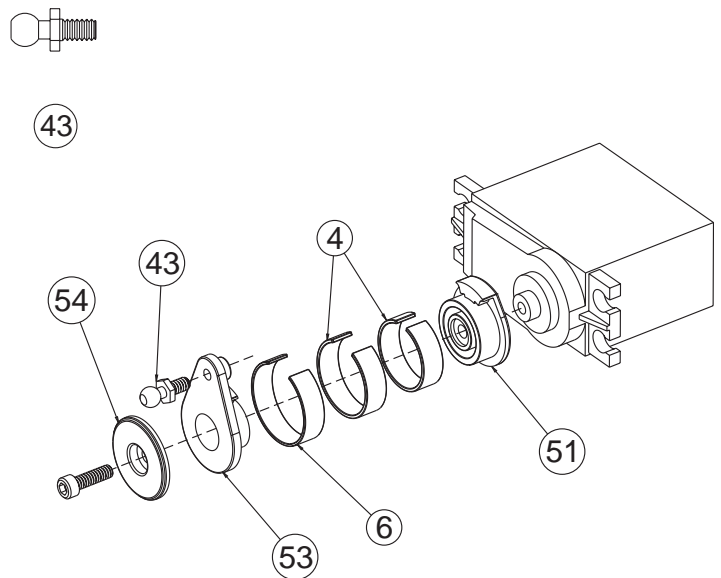

Figure 21
- ❑ 1. Using Table 22 (on the following page), determine which Servo Saver Base (51) is required for your servo. If your particular servo is not listed, try using the Arm recommended for another servo made by the same manufacturer.
- ❑ 2. Thread a 3/16" Ball Stud (43) into the outer Servo Saver Arm (53) from the front side as indicated in Figure 21.
- ❑ 3. Plug the servo into the radio system's receiver (*not included*). Make sure that there is power to the receiver, and turn the transmitter on followed by the receiver. Be sure that the trim settings for the steering on your transmitter are set to the center. With the radio system still turned on, attach the Servo Arm to the output shaft so that the Arm is vertical as shown in Figure 21.
- ❑ 4. Turn off your receiver then radio, slide one of the two "Silver" Servo Saver Springs (4) over the Servo Arm which is connected to the servo. Fit the second of the "Silver" Springs over the first Spring followed by the "Gold" Spring (6). The Springs should all be pressed against the back of the Servo Saver Base.
- ❑ 5. Press the outer Servo Arm into the Servo Saver Base. Insert the Servo Saver Washer (54) into the Outer Servo Saver Arm. Secure the assembly to the servo with the servo arm screw supplied with the servo.